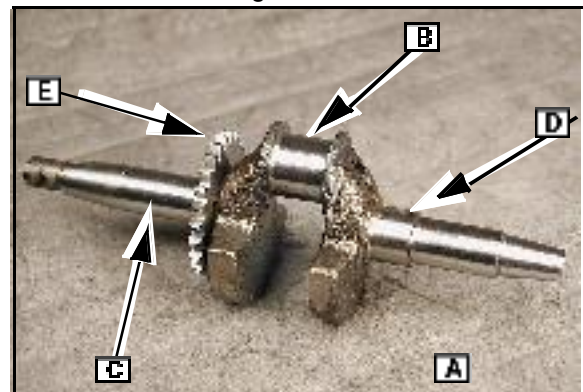

Fig. 6
Refer to Fig. 6 to check wear points on crankshaft.
1. Measure the diameters of the PTO journal (A), crank pin (B) and mag journal (C).
2. Check keyways (D) for wear and spreading.
3. Check timing gear ([E] Fig. 6) for chipped or cracked teeth and for wear in the keyway. Replace crankshaft and gear if worn or damaged.